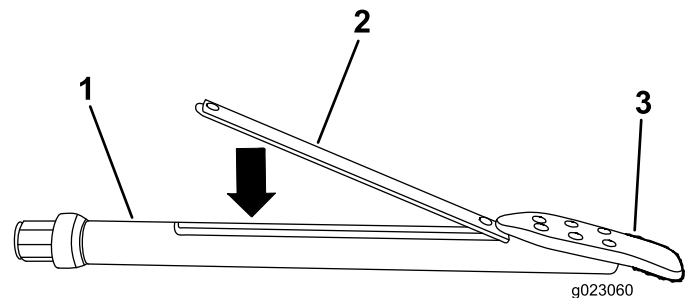

Figure 83
3. Insert the sonde beacon with the forward end toward the drill bit into the sonde housing (Figure 83).